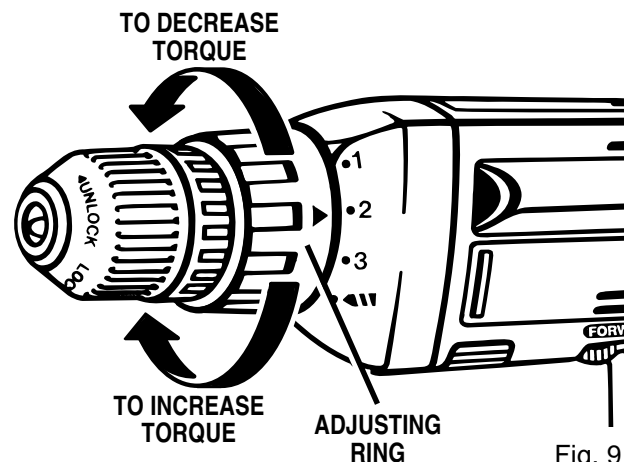

Fig. 9
- Identify the four torque indicator settings located on the front of your drill. See Figure 9.